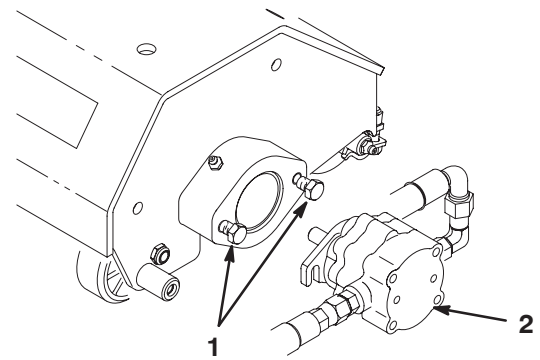

Figure 8
- A. Loosen the mounting screws for the reel motor to each spiker. Leave approximately 1/2 in. of threads exposed on each mounting screw (Fig. 8).